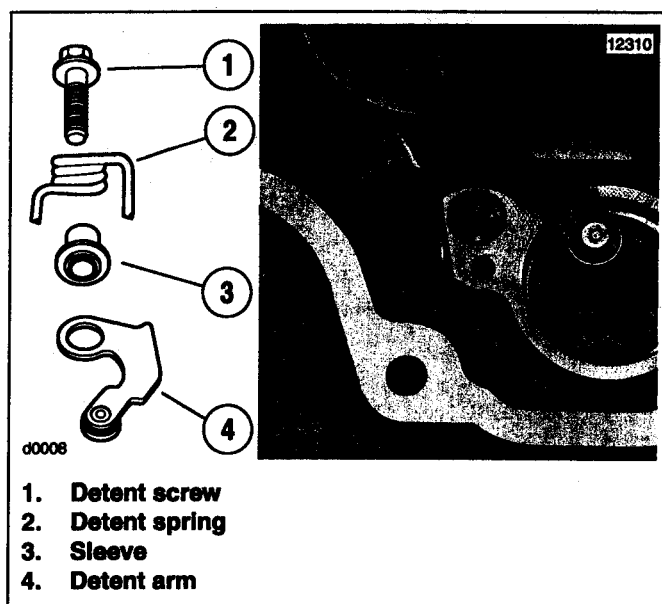

Figure 11. Detent Assembly
2. See Figure 11. Assemble new detent screw (1) (Part No. 35244-06 from recall parts kit), detent spring (2), sleeve (3) and new detent arm (4) (Part No. 33409-06 from recall parts kit). With transmission bearing housing mounted on end (shafts pointing upward), mount detent assembly in bearing housing as shown. Make certain to orient spring and detent arm as shown in the figure. Tighten screw to 120-150 In-lbs (13.6-17.0 Nm).